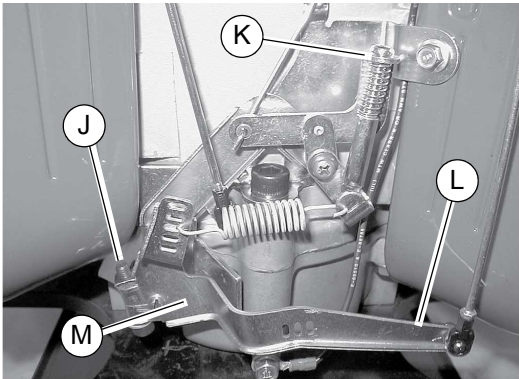

Figure 5-9. Speed Adjustment
NOTE: See Figure 5-9. High speed screw (K) may need adjusting to reach speed control stop without exceeding 3800 RPM.